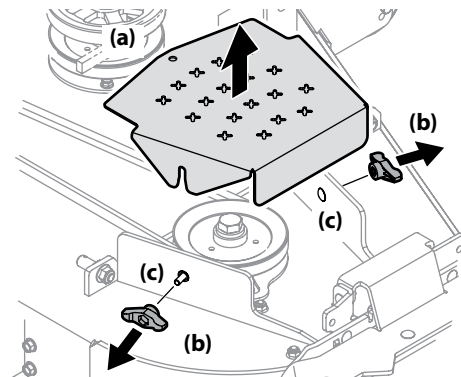

Figure 34
- To remove the belt covers (a), remove the wing knobs (b) from the carriage screws (c) securing it to the deck. See Figure 34.
- The speed nut should hold the carriage screw (c) and tab bolt in place, if not re-install as shown in Figure 34.